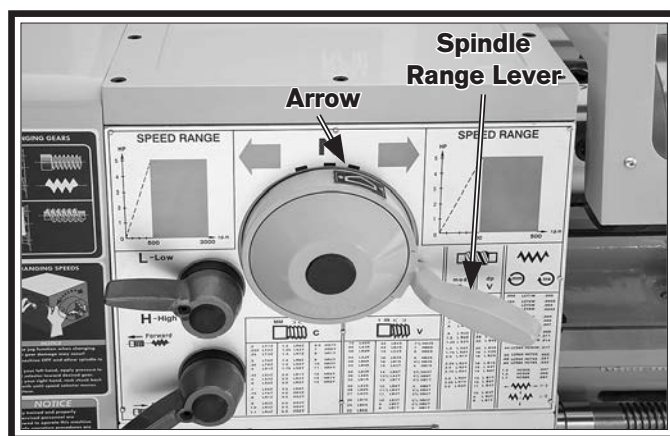

Figure 24. Low spindle speed range selected.
7. Move the spindle speed range lever so the arrow on the hub points to the right (see **Figure 24**). This will make the lower spindle speed range available.